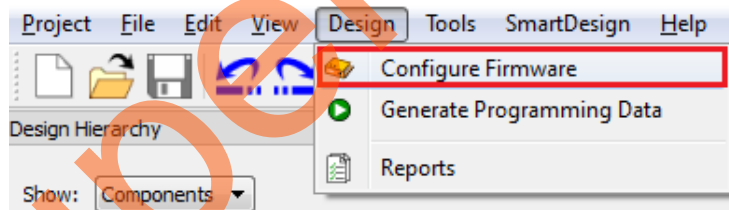

Figure 21 • Opening DESIGN_FIRMWARE Window
1. Click **Design > Configure Firmware** in Libero SoC to open the **DESIGN_FIRMWARE** window, as shown in Figure 21.